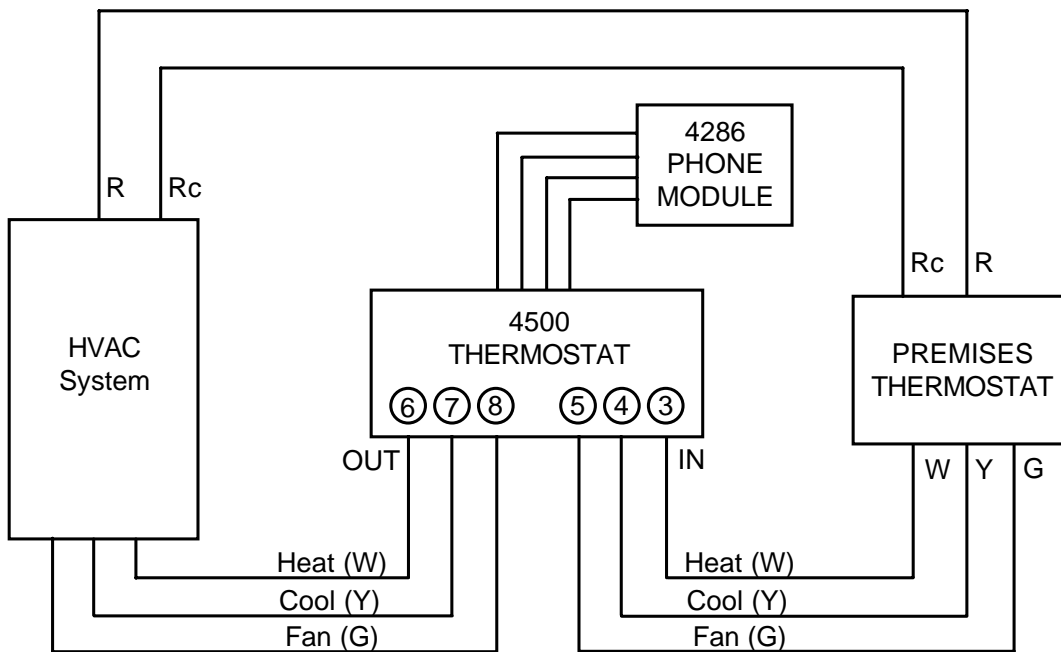

Figure 3. 4500 Thermostat with HVAC System
The 4500 thermostat is designed to be mounted alongside the existing thermostat. Once the 4500 is mounted, the wiring connections can be made. The wires to the existing thermostat will have to be disconnected, and then re-connected with the 4500 as shown in Figure 3.
Under the correct circumstances, switches in the thermostat connect the applicable power connection (R or Rc) to the applicable control loop of the HVAC system, turning it on. For example, if the thermostat is set to turn the heat on when 65 degrees is reached, the relay contacts between the power connection (R) and the wire going to the heating control loop (W) will close when the temperature drops to 65 degrees. The heating system will be activated. Figure 3 shows the same system with the 4500 thermostat and 4286 phone module added: